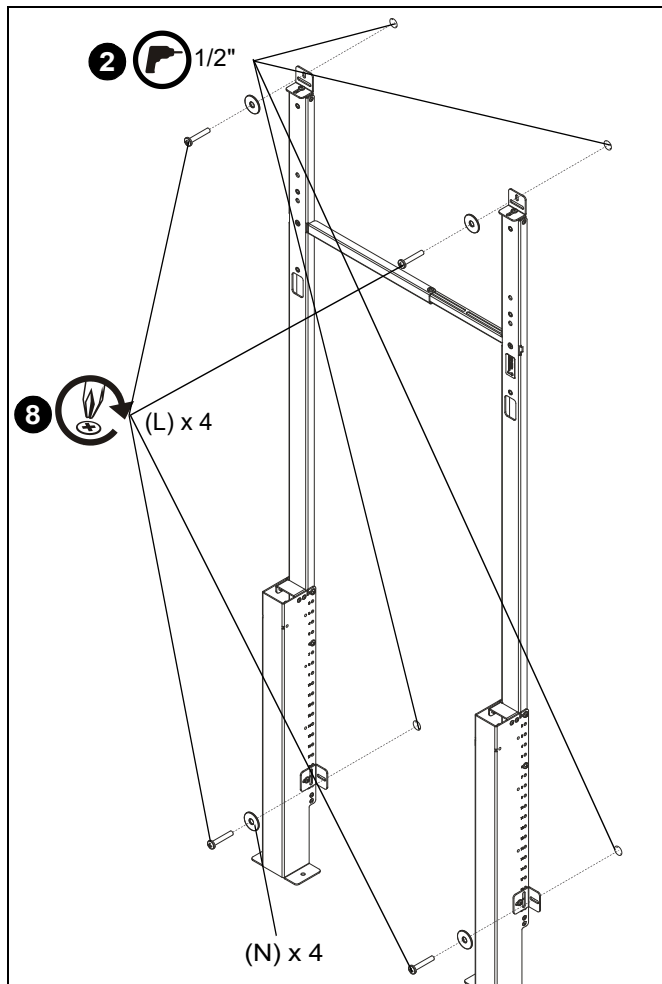

Figure 6
1. Mark hole locations at each mounting location based on locations of wall brackets (F). Use a level to ensure of an even mount. (See Figure 6)
2. Drill 1/2" holes on marked hole locations. (See Figure 6)
8. Use four 1/4-20 x 1 3/4" Phillips pan machine screws (L) and four 1/4" washers (N) to secure wall brackets (F) to wall. (See Figure 6)